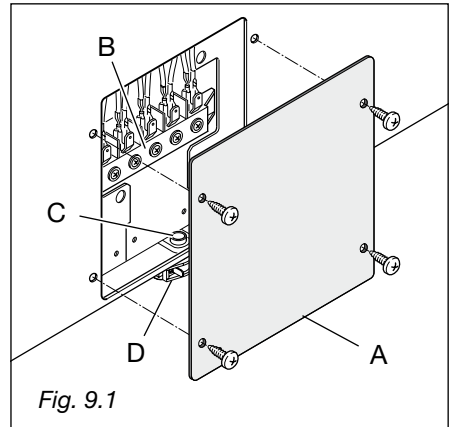
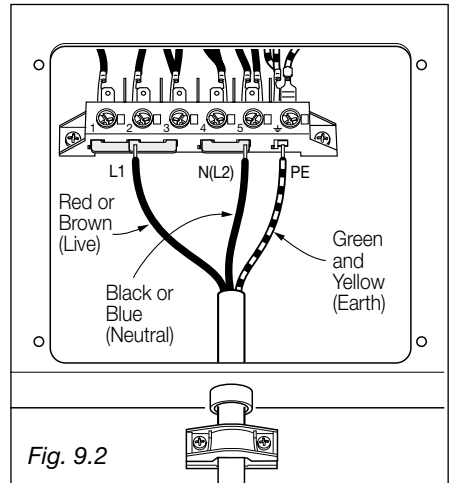
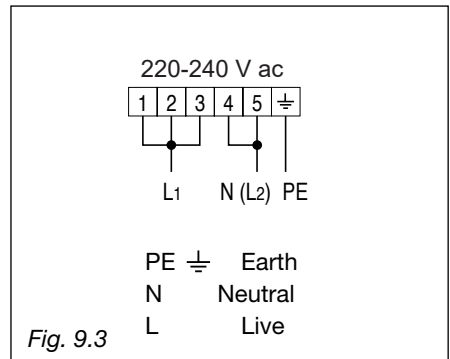

Fig. 9.1
Fig. 9.2
Fig. 9.3
- Position the U bolts onto terminal block **B** (fig. 9.1) according to the diagram in fig. 9.2 and fig. 9.3.
- Connect the phase and earth cables to terminal **B** according to figures 9.2 and 9.3.